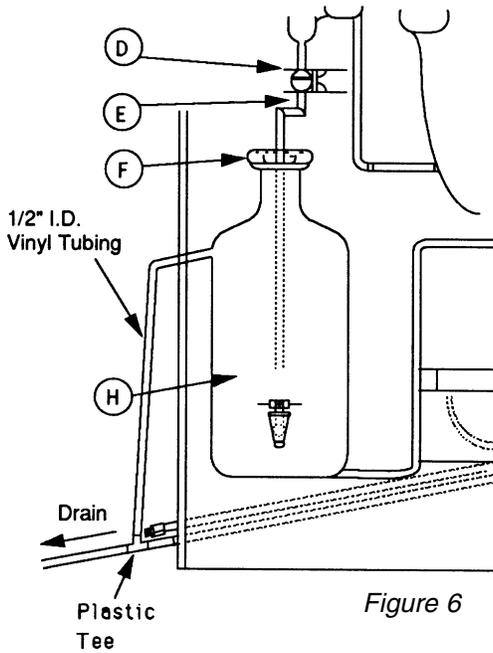

Figure 6
- Bottle dust cover (F)
- Product delivery tube (E)
- Thomas clamp (D)
1. Place the bottle dust cover on the 3 1/2 gallon bottle and route the product delivery tube through the hole in the cover. Place this assembly inside the still cabinet below the condenser (B) and connect the product delivery tube to the condenser with clamp (D).
2. Locate the plastic tee (1/2 x 1/2 X 1/2) and the 20" length of 1/2" vinyl tubing in the parts box. Connect to the bottle overflow tubulation and drain as shown in Figure 6.